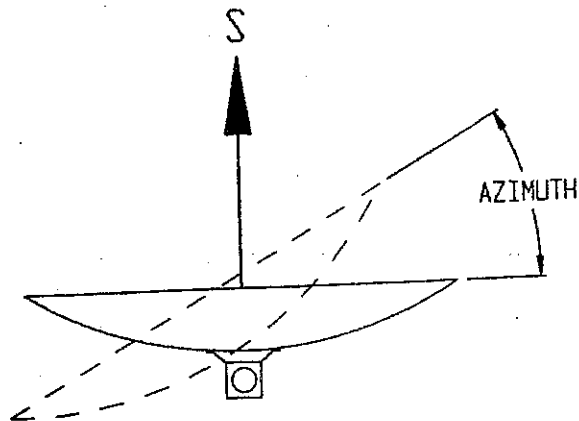

Figure 3.0-3
- Step 3:** After making the cable connections to the LNB, rotate the antenna in azimuth to the correct azimuth heading using a compass to determine direction. Sweep the antenna slowly in azimuth until a signal is found. See figure 3.0.3.